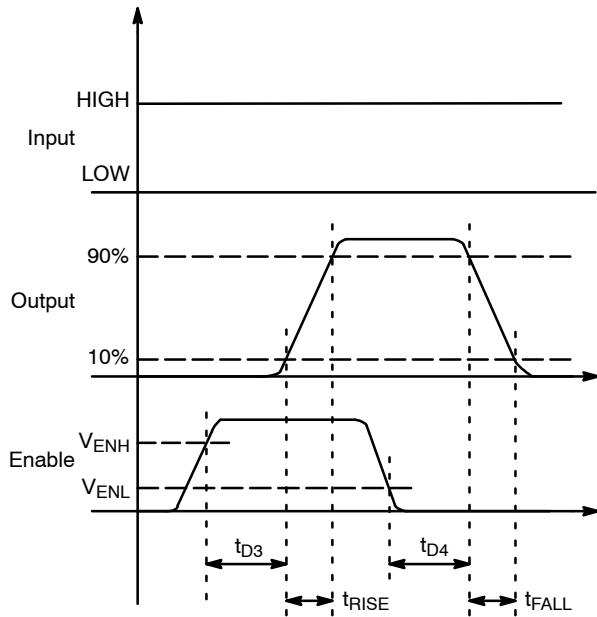
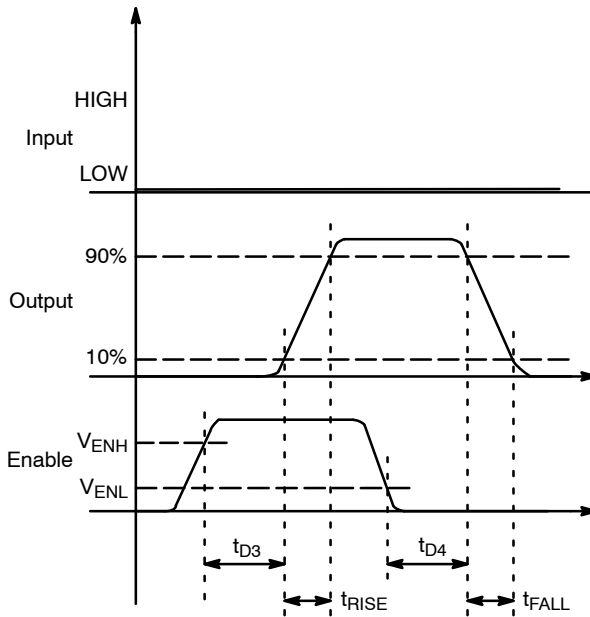

Figure 10. Non-Inverting (IN HIGH)
Figure 11. Inverting (IN LOW)
11. See Timing Diagrams of Figure 10 and Figure 11.